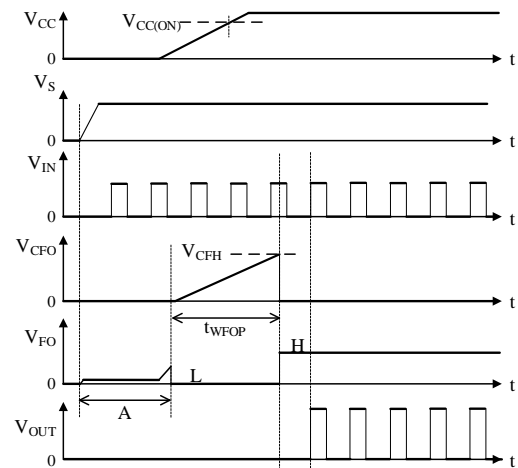
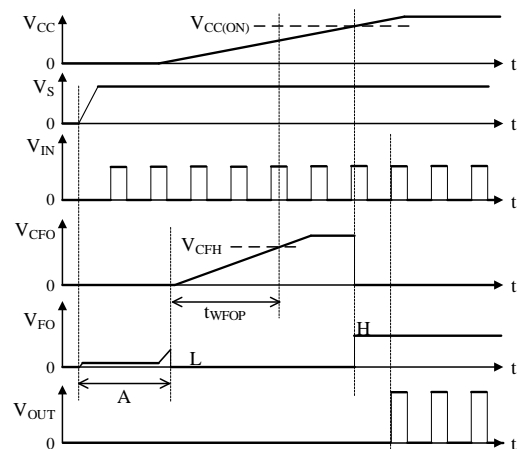

Figure 10-2. Startup Waveforms 1
Figure 10-3. Startup Waveforms 2
Figure 10-2 and Figure 10-3 show the startup waveforms. The VCC pin voltage, VCC, is added from an external power supply.
While VCC increases to the internal circuit start voltage from 0 V (period A described in Figure 10-2 and Figure 10-3), the FO pin voltage becomes V_F + VCC (where V_F is a forward voltage of an internal protection diode). When the internal circuit operates, the FO pin becomes low level and outputs the fault signal. If VCC is the Operation Start Voltage, VCC(ON), or more for the fault output time, tWFOP, the IC discharges CCF0, and turns the FO pin status into high (see Figure 10-2).
On the other hand, when VCC is less than VCC(ON) for the fault output time, tWFOP, the IC keeps to charge CCF0 until VCC increases to ≥ VCC(ON) (see Figure 10-3). When VCC becomes ≥ VCC(ON), the IC discharges CCF0, and turns the FO pin status into high. Then, the OUT pin outputs the signals according to the IN pin signal after the next rising edge of an IN pin signal.